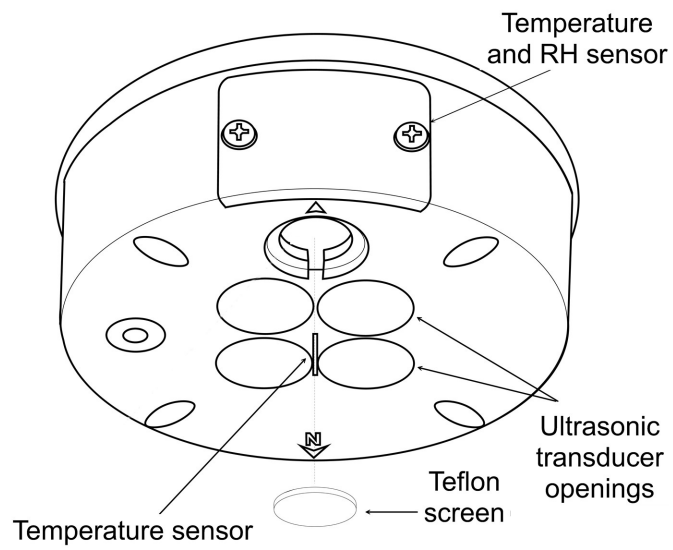
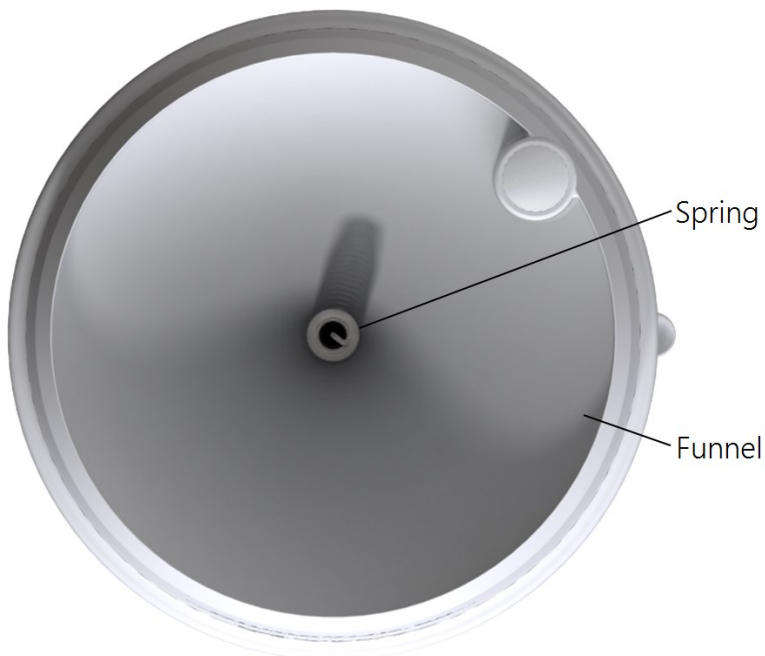
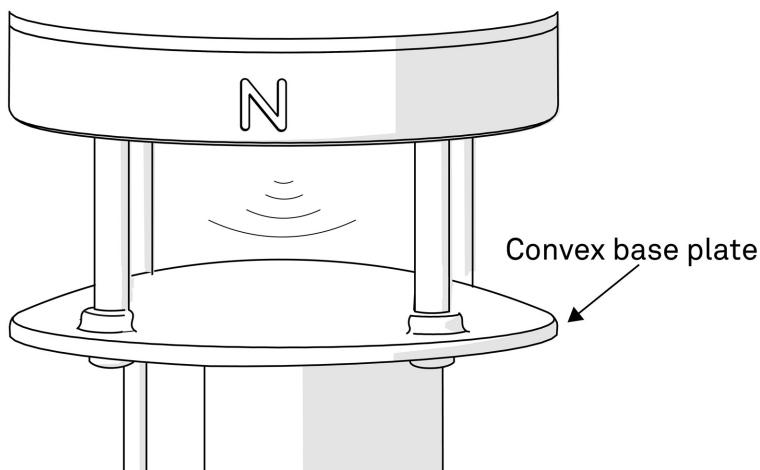

Figure 9-1. Temperature sensor and ultrasonic transducer openings
Figure 9-2. Top view of ClimaVue 50 G2
Figure 9-3. Convex base plate
1. Remove cobwebs, leaves, bird droppings, wasp nests, or other debris from the temperature sensor (Figure 9-1 [p. 31]), ultrasonic transducer openings (Figure 9-1 [p. 31]), rain gauge funnel (Figure 9-2 [p. 31]), pyranometer (Figure 9-2 [p. 31]), and plate (Figure 9-3 [p. 32]).
Gently clean the sonic transducers and do not allow water to enter the ultrasonic sensors (Figure 9-1 [p. 31]). Water may corrode the metal parts inside the sensors and ruin them.
4. Inspect the Teflon screen (Figure 9-1 [p. 31]) and replace if dirty.
3. Check that the plate (Figure 9-3 [p. 32]) is not dirty.